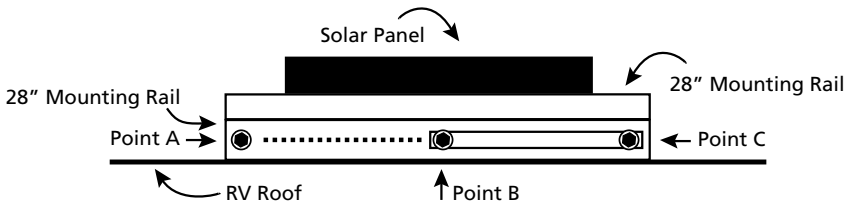

Fig. 10 Travelling Mode
- Lower the 28" mounting rails and the 14" brackets so that the square holes of each set of the mounting rails and brackets align with each other and the solar panel is flat (Fig. 10).
- Using the $\frac{1}{4}$ "- 20 x 1" carriage bolts and the $\frac{1}{4}$ " wing nuts, secure the structure in this position (Fig. 10).